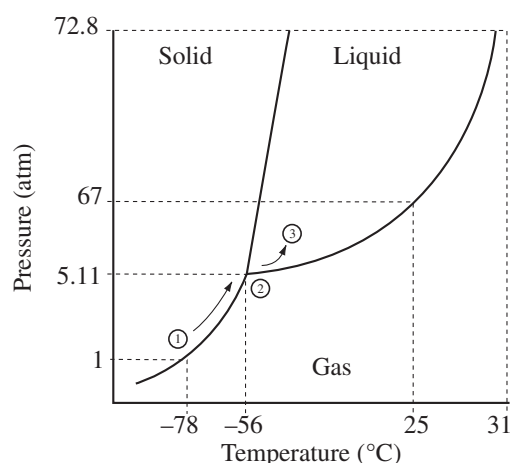

Figure 1. Phase Diagram of Carbon Dioxide
The phase diagram for carbon dioxide is shown in Figure 1. If a sample of dry ice is placed on the desk at normal atmospheric pressure (1 atm. or 14.7 psi) and room temperature (25 °C), the solid will sublime spontaneously, maintaining its temperature of -78 °C (point ①) until the solid disappears completely. The gas formed will absorb heat from the room until it obtains a stable gaseous state at 25 °C. If a sample of dry ice is sealed in a closed system such as the triple point apparatus, the pressure begins to rise allowing the solid to exist at a higher temperature. Most of the energy absorbed from its surroundings will result in an increased temperature and corresponding increase in vapor pressure. The effect of this increased energy is a series of pressure-temperature equilibria along the solid-gas line between points ① and ② on the phase diagram.